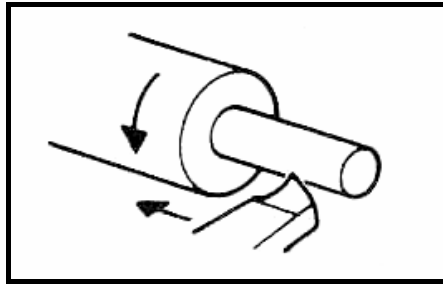

FIGURE 1.3
- D Single corner rounding cutter (1)
1.8 Which lathe operation is shown in FIGURE 1.3 below?